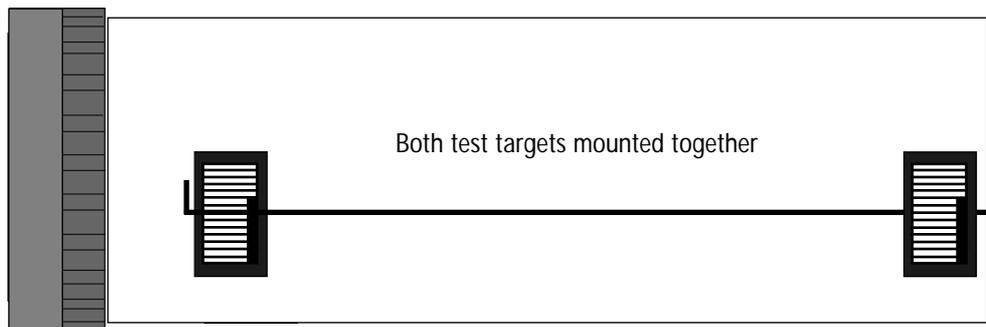

Fig. 2
- 9 • Mount a ScanView focus adjust target at each end of the drum as shown in Fig. 2 (the same dimensions away from the zero point as the UGRA test target).